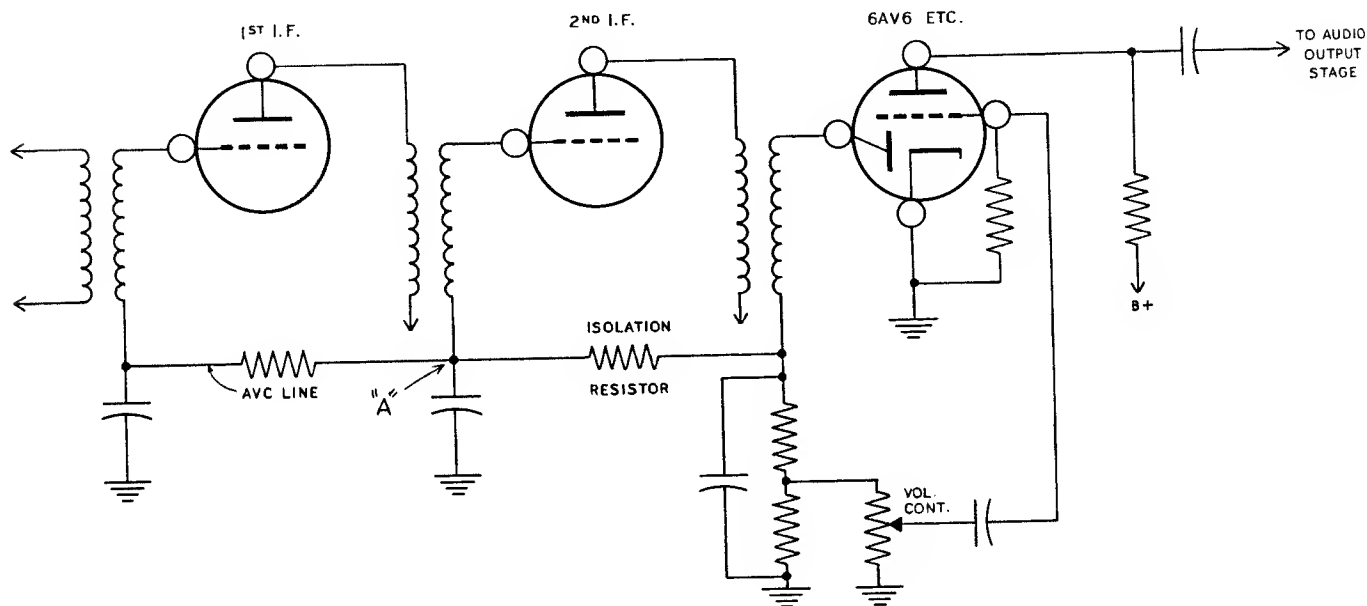

Figure 7
- () Refer to Page 11, Pictorial 3 in the BR-2 manual. Connect one lead of the 10 megohm resistor to N1 (S) and the other lead to D3 (NS).
- () Connect one end to D3 (S) and the other end to terminal #2 of the phono socket (S).
- () If the phono socket on the receiver is being used mount the phono socket supplied with the kit on the rear apron of the chassis directly in line with tube socket D. Refer to Figure 7 for hole sizes.